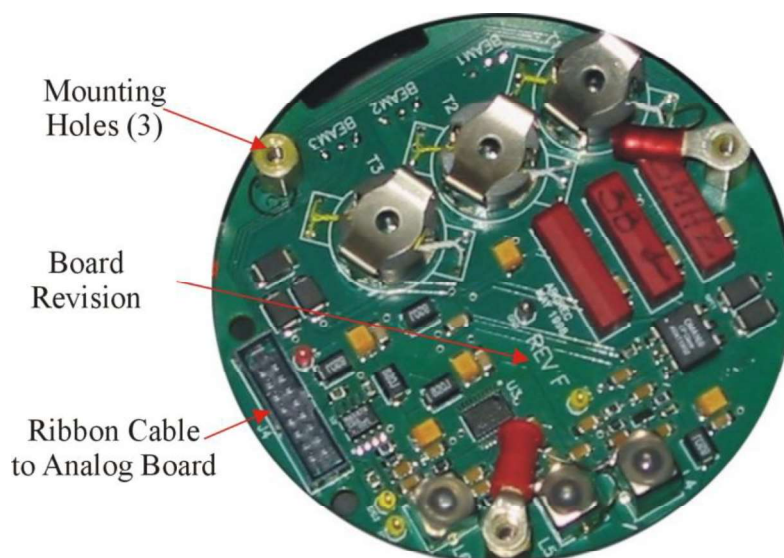

Figure 7-14. Argonaut-SL Receiver Board
- A 16-pin, keyed connector (left side) connects to a ribbon cable that goes to the Receiver board (Figure 7-14).
Figure 7-14 shows the layout of the Receiver board.